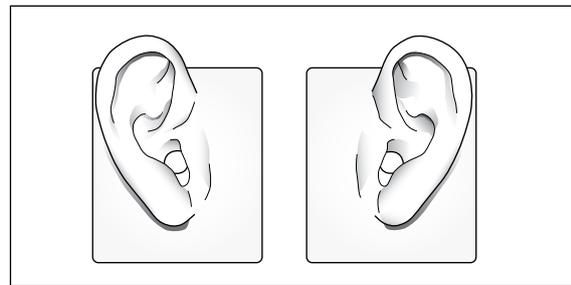

Fig. 6. Small pinnae.
- Small pinnae corresponding to the small ears that are typical of American and European females as well as Far-eastern males and females (Fig. 6).